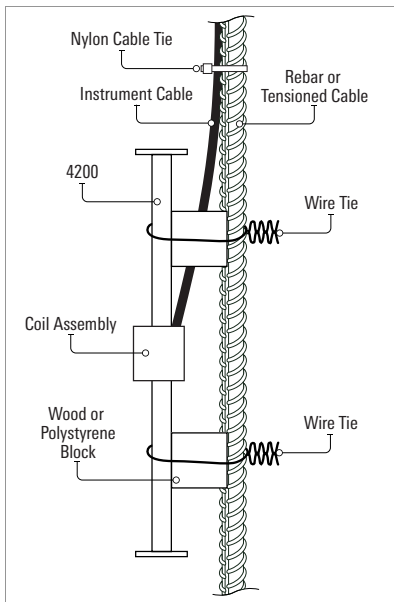

FIGURE 16: Attaching Gauges to Rebar
1. Place two pieces of wood or polystyrene foam between the gauge and the rebar as shown in Figure 16.